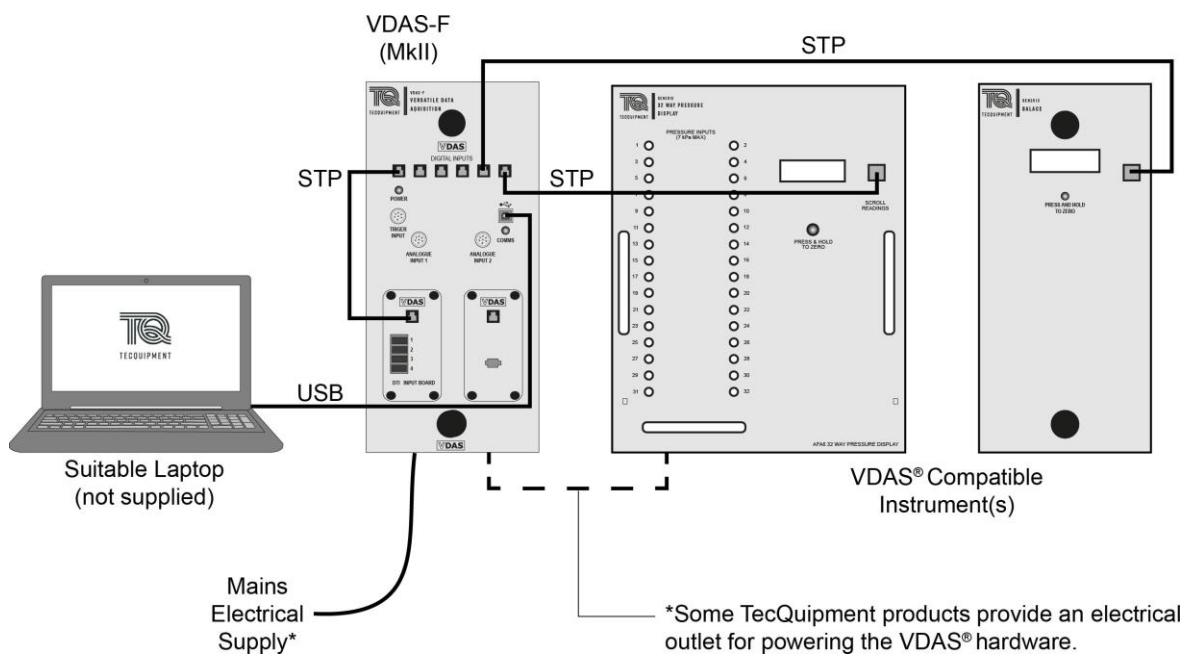

Figure 10 Typical System Connections for the VDAS-F
- Figure 10 shows typical connections for the VDAS-F Hardware.